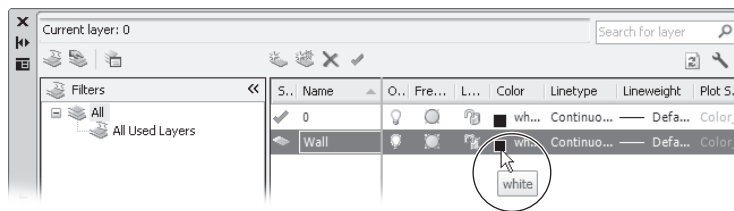

Figure 7.3
4. With your new layer name highlighted, click the Color icon in that layer's listing, as shown in Figure 7.3. The Color icon is in the Color column and currently shows White as its value.